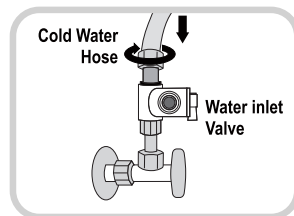

Fig. 3
3. Install the Water Inlet Valve on one end directly to the cold water tap and attach the hose to the other end. The valve now becomes a bypass between the cold water tap and the hose that runs to the sink (Fig. 3).